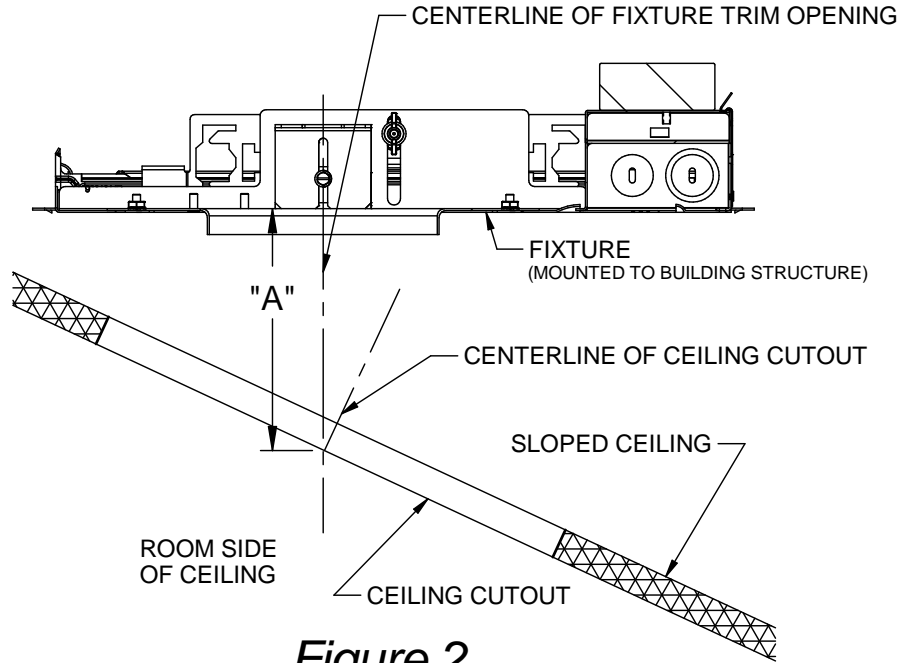

Figure 2
1. Determine the desired location of the fixture and mount the light fixture to building structure in compliance with the national electric code where the center line of the fixture trim opening on the frame or frame void is in line with the center of the desired fixture location in the ceiling. **IMPORTANT:** Make sure that the edge of the fixture frame shown in "Figure 2" is within the distance "A" (provided in Table 1) of the center point of the desired fixture location on the room side of the ceiling as shown in "Figure 2" based on the SCA accessory trim size, ceiling thickness, and ceiling slope. **NOTE:** To avoid interference of the fixture with the sloped ceiling; note orientation of fixture frame relative to slope ceiling shown in "Figure 2" for best fixture installation. Reference LITEISTRY™ fixture instructions for more details on installing the fixture.